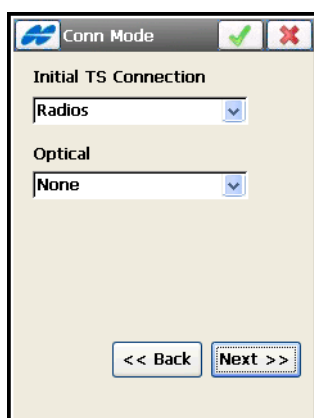

Figure 4-74. Conn Mode
4. On the **Conn Mode** screen, select the connection mode (the *Initial TS Connection* parameter from the drop-down list) and tap the **Next** button (Figure 4-74).